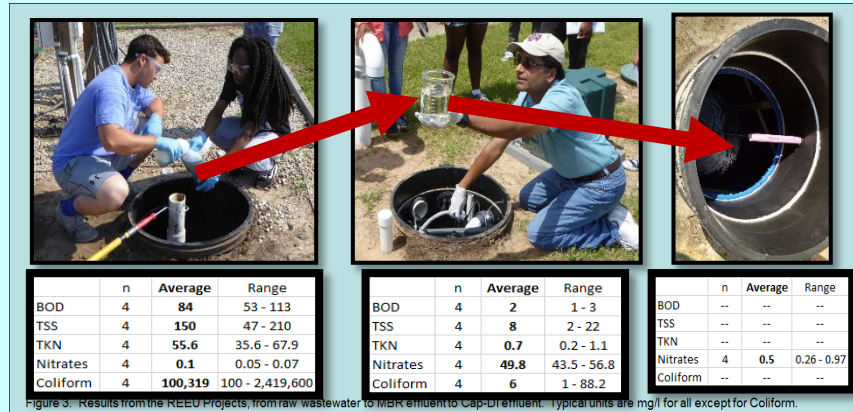

Figure 3. Results from the REEU Projects, from raw wastewater to MBR effluent to Cap-DI effluent. Typical units are mg/l for all except for Coliform.
Our goal is to use the funding from Water Seed Grant and REEU program to study performance of the combined MBR and water treatment technologies to determine efficacy of the Onsite Direct Potable Reuse of Wastewater (Fig. 3). We have installed advanced wastewater treatment technology (Membrane Bio-Reactor) as well as water treatment technologies (Capacitive Deionization, Ozone and UV Disinfection, and Reverse Osmosis) for purification of the MBR effluent. We are in the process of adding several new technologies including a high-efficiency distillation technology to treat wastewater and desalinate salty ground water. We are also in the process of field testing an energy efficient Reverse Osmosis (RO) membrane designed to make On-Site desalination affordable. Our proposed innovative on-site water technology has the potential to disrupt conventional centralized water infrastructure approach in a manner similar to use of solar panels on roof of individual houses/buildings for energy production.